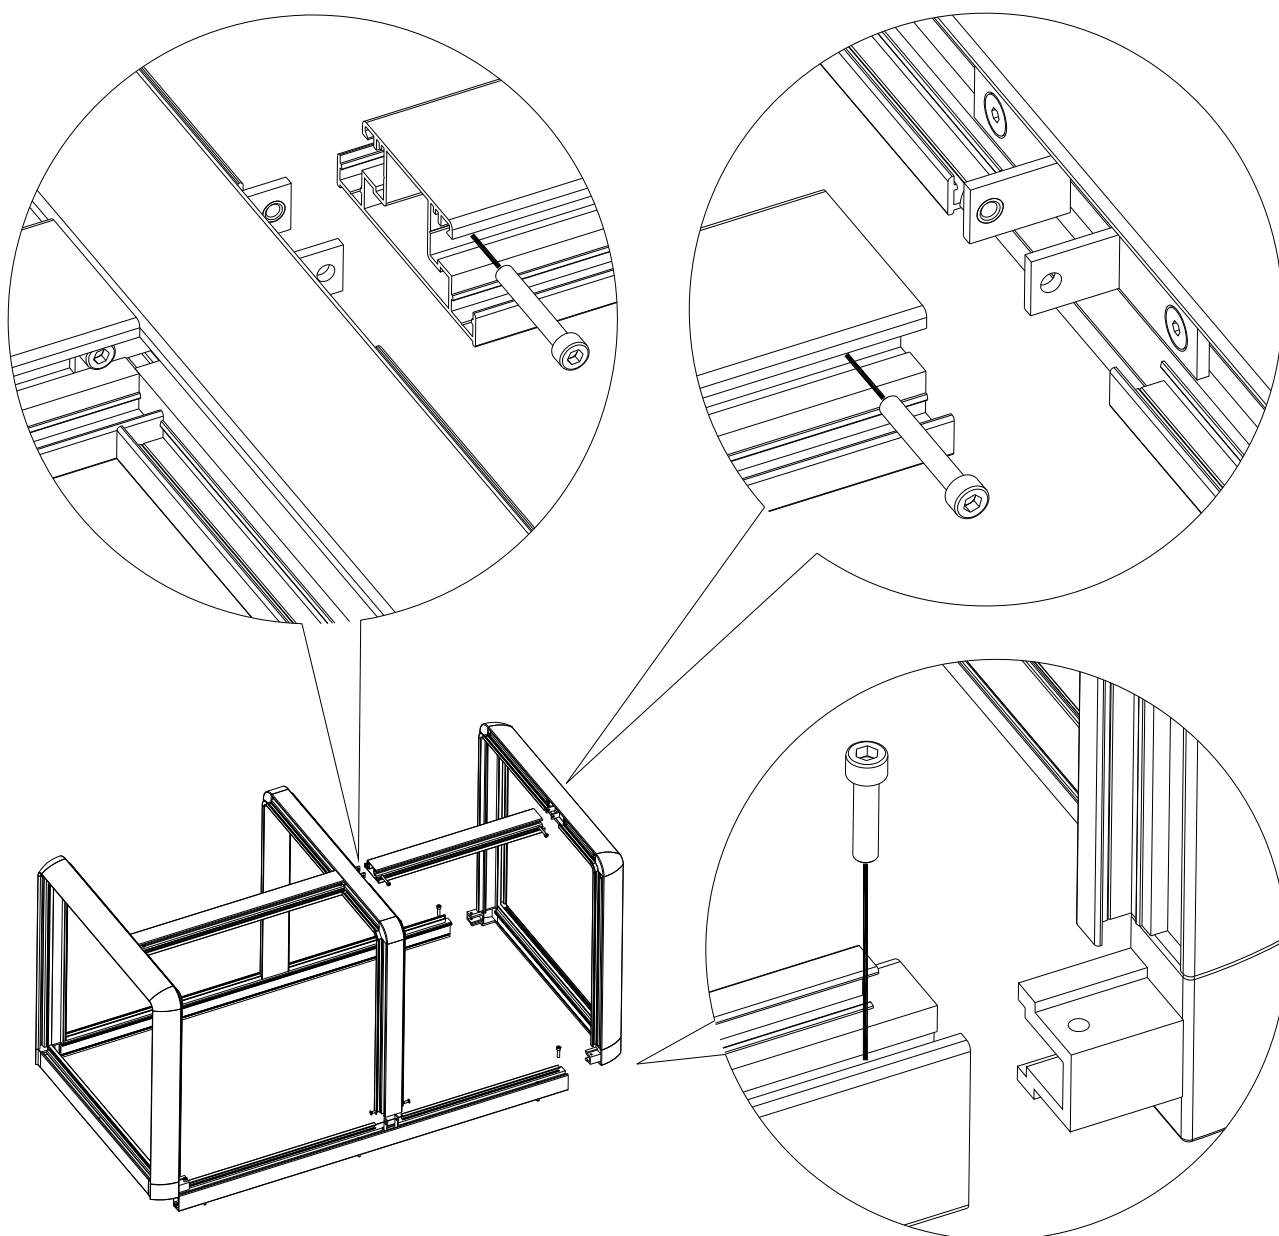

Figure 28: exploded view sound shield Whisper 16 Ultra
- 2 The sound shield can be disassembled according to exploded view below (figure 28)
50201350	Raw water pump complete Mastervolt type M16 (***) (refer to fig. 28)